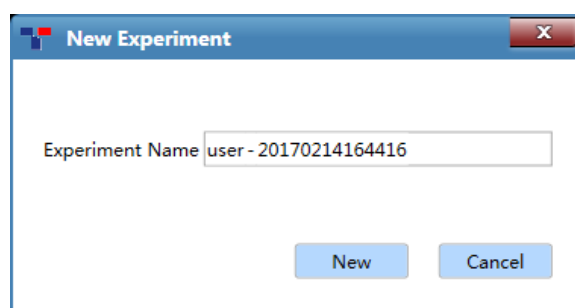

Figure D-2.1c Quick start bar - New Experiment
- Click < **New Experiment** > and the application software will automatically pop up the new experiment dialog box, as shown in figure D-2.1c. User can manually enter a name in the **Experiment Name** input box and click < **New** > to create a new experiment file.